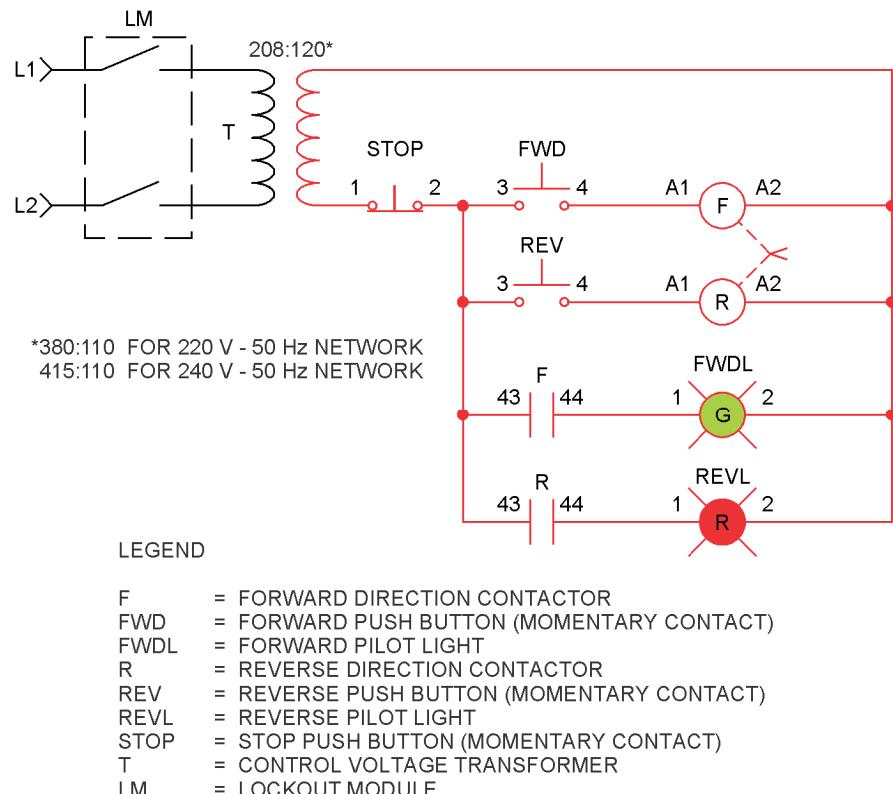

Figure 3-11. Dual contactors testing circuit.
If you refer to the Figure 3-11 circuit, a mechanical interlock (in dashed lines) is located between the two contactor coils. When one of the two contactors is energized, the contacts of the other contactor are mechanically maintained, even if the second coil is energized. This method provides a level of security against short-circuits resulting from stuck contactors. This explains why mechanical interlocks are so common in the industry.
- 16.** Connect the circuit shown in Figure 3-11.